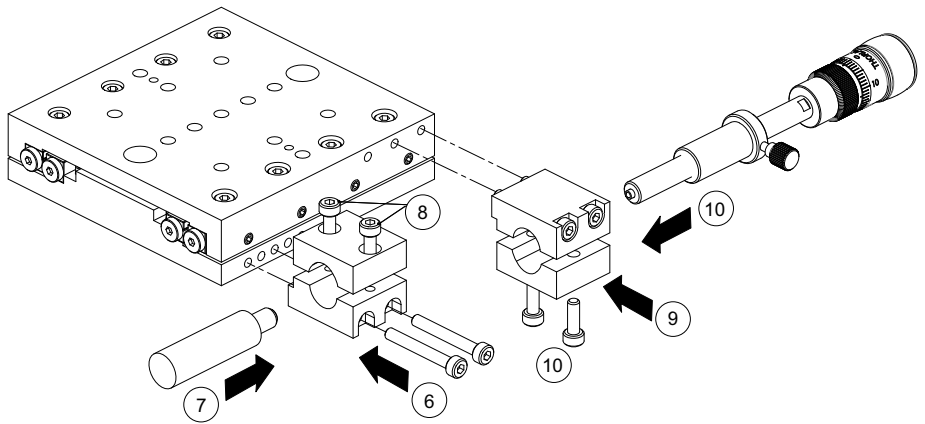

Fig. 4.8 Reconfiguring the Actuator Position
Referring to Fig. 4.8 on the next page:
- 6) Refit the push block mounting block on the opposite side of the stage as shown in Fig. 4.8 and tighten the attachment bolts.
- 9) Refit the actuator mounting block as shown in Fig. 4.8 and tighten the attachment bolts.